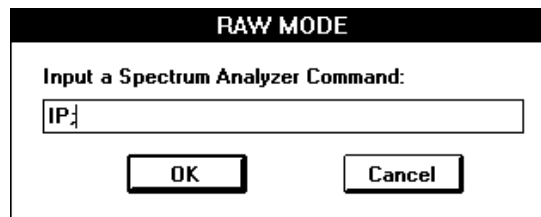

Figure 5-16: Typical Raw Mode Dialog Box
1. Click on Raw Mode in the Remote Spectrum Analyzer Button Bar to open the Raw Mode dialog box (Figure 5-16).